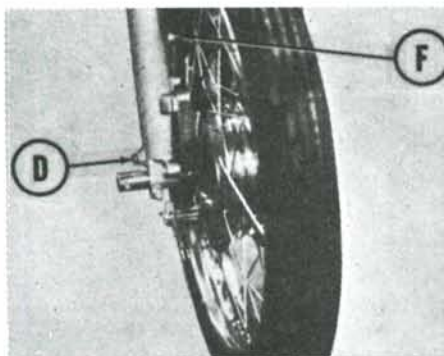

Fig. BE1-3—Oil in front forks is drained at screw (D). Oil should be maintained at level of filler screw hole (F).
**SUSPENSION.** Each front suspension unit is drained at plug (D—Fig. BE1-3). Fill to the level of filler plug (F) with SAE 20 motor oil. Fluid in the front suspension should be checked every 1,000 miles and drained every 5,000 miles. The rear suspension units are available only as complete assembly and should be renewed if bent, leaking or otherwise damaged.